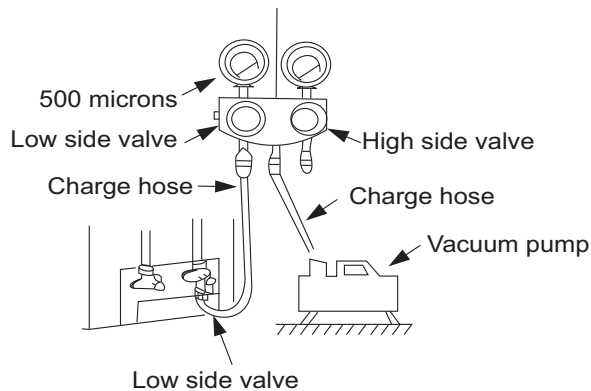

Fig. 48 —Manifold
3. Fully open the low side of manifold gage (see Fig. 48).